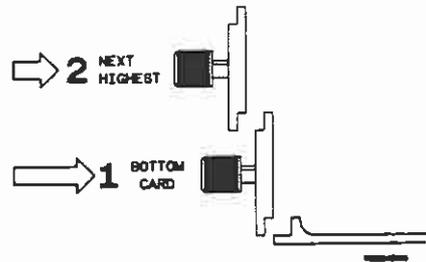

Figure A-11. Endplate Overhang
- p. Repeat for all cards and filler panels in a **bottom to top** order. See figure A-11.